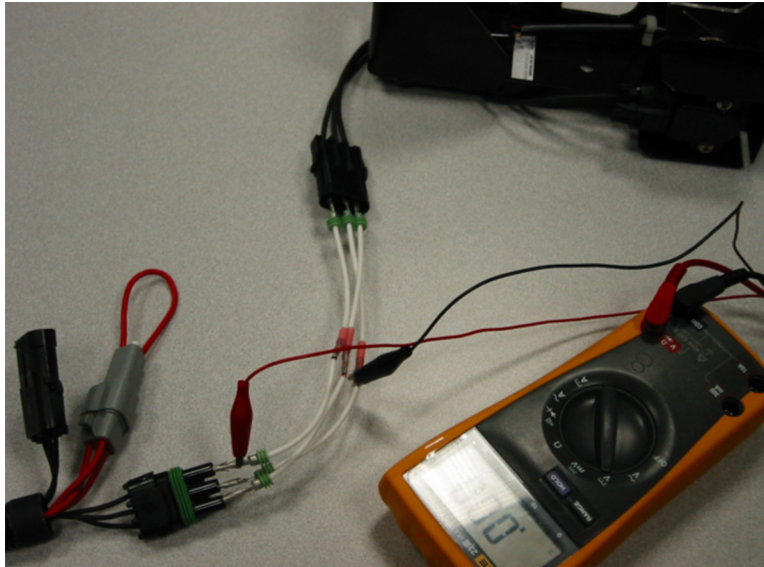

Figure 13-12 - Example of Voltage Test with Break Out Jumper Wires
2. Install jumper connections (or "break out" adapter P/N 3823255) across the engine throttle input connector, such that a volt meter measurement can be made with the circuits complete. Figure 13-12 illustrates this test set up.